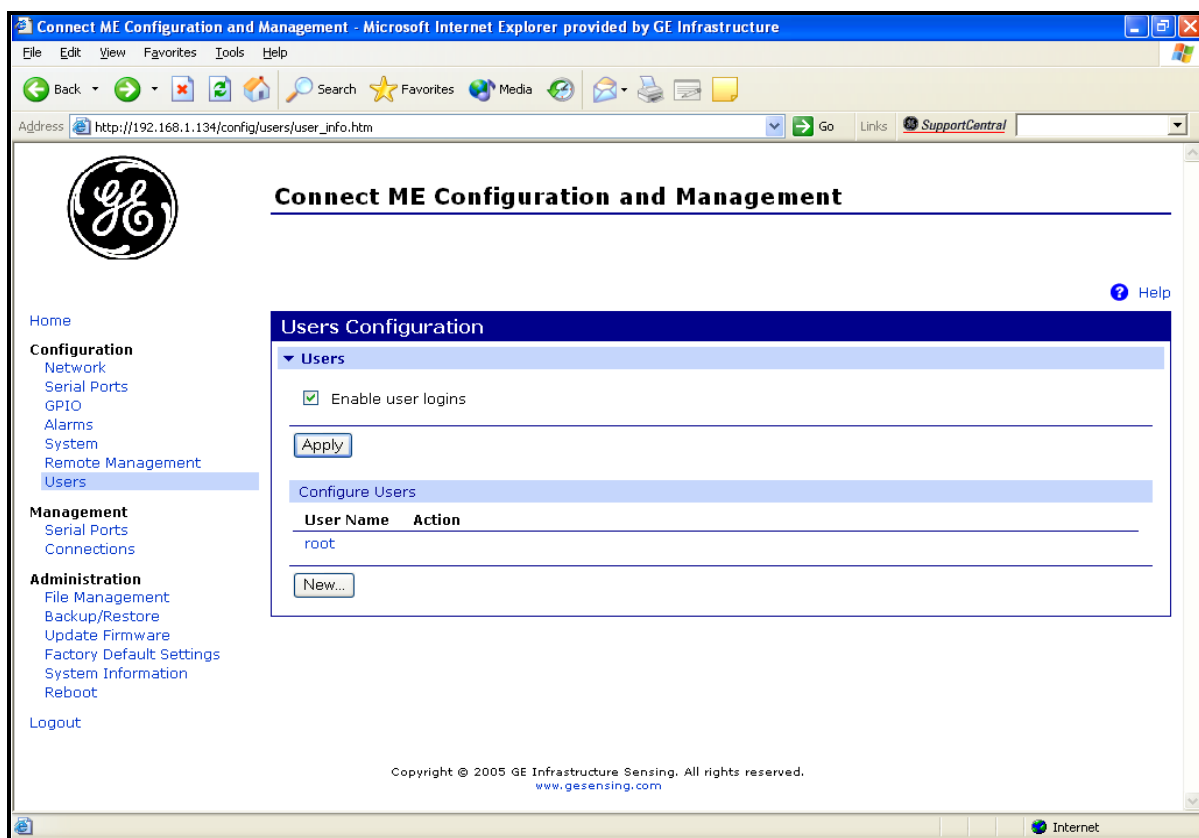

Figure 18: User's Configuration Menu
3. Click on **Login**. Figure 18 below appears.